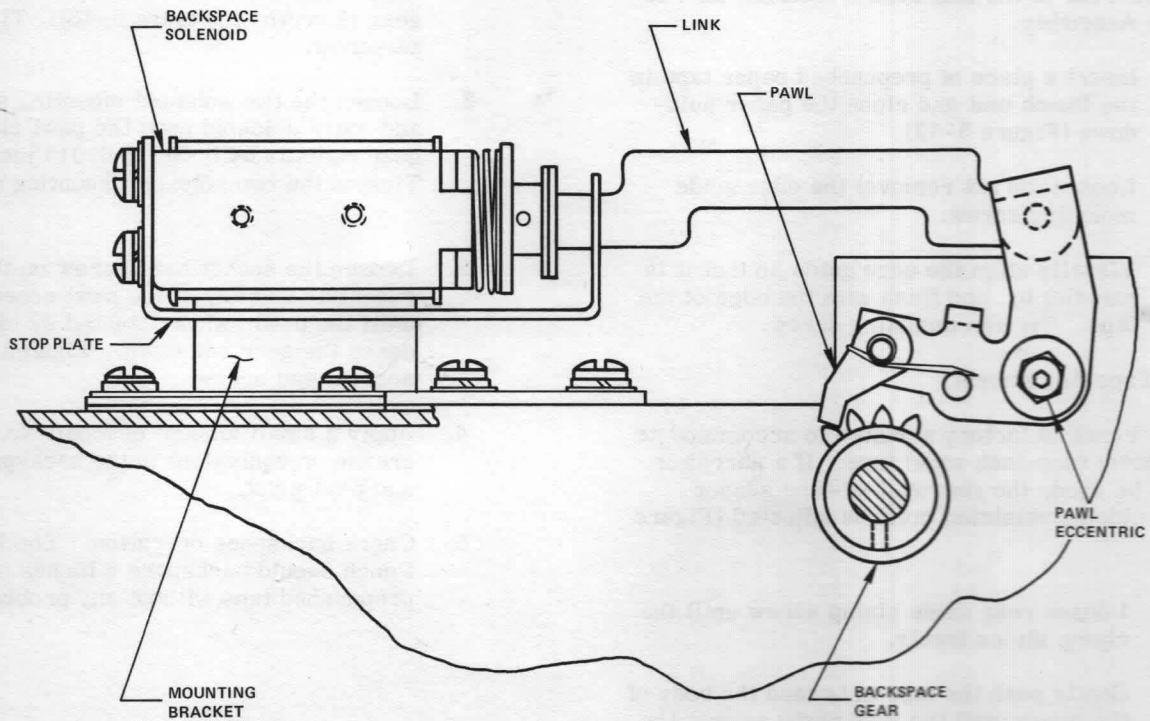

Figure 5-13 Backspace Adjustment
1. Loosen setscrew on backspace gear and rotate gear until a tooth on the backspace gear is vertical (Figure 5-13). Tighten setscrew.